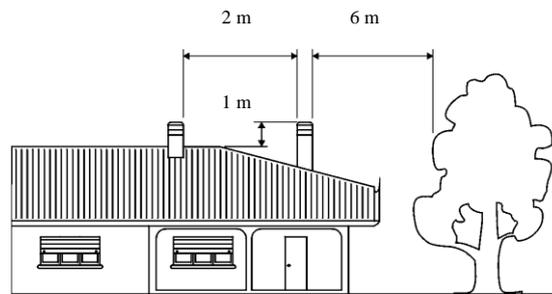

Figure 9. Situation of the chimney.
- chimney tip ought to be situated 6 m away from any obstructions, such as walls, rocks or trees according to the local in regulations. Otherwise, the chimney ought to be extended to protrude approximately 1 m above the existing obstruction. The chimney tip ought to be situated approximately 1 m above the roof surface (figure 9).